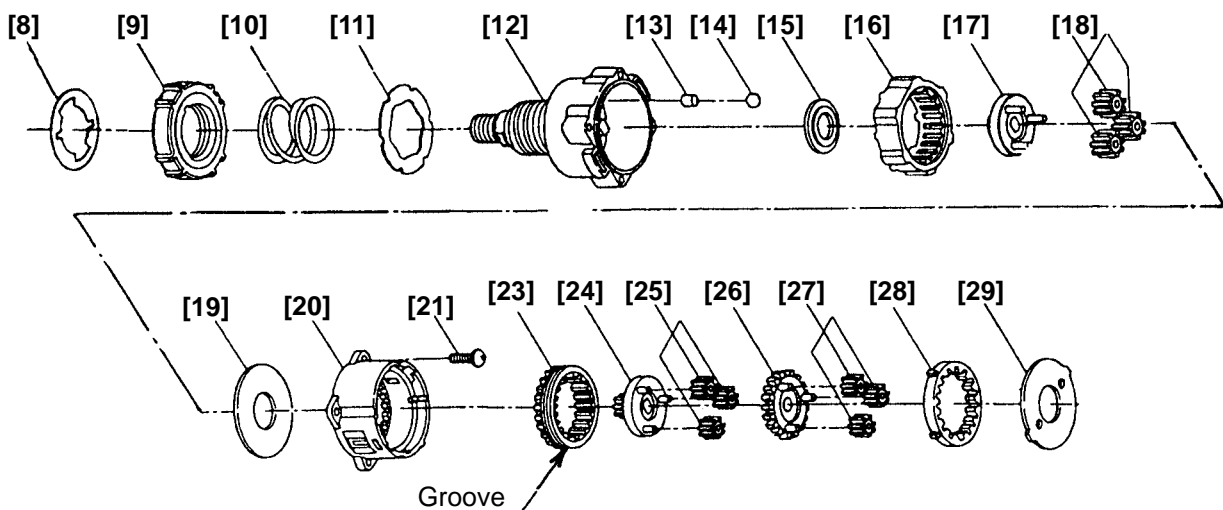

Fig. 10
(b) Install the parts series from the six Rollers [13] to Washer (B) [29] into the assembly reassembled in step (2). (See Fig. 10.)